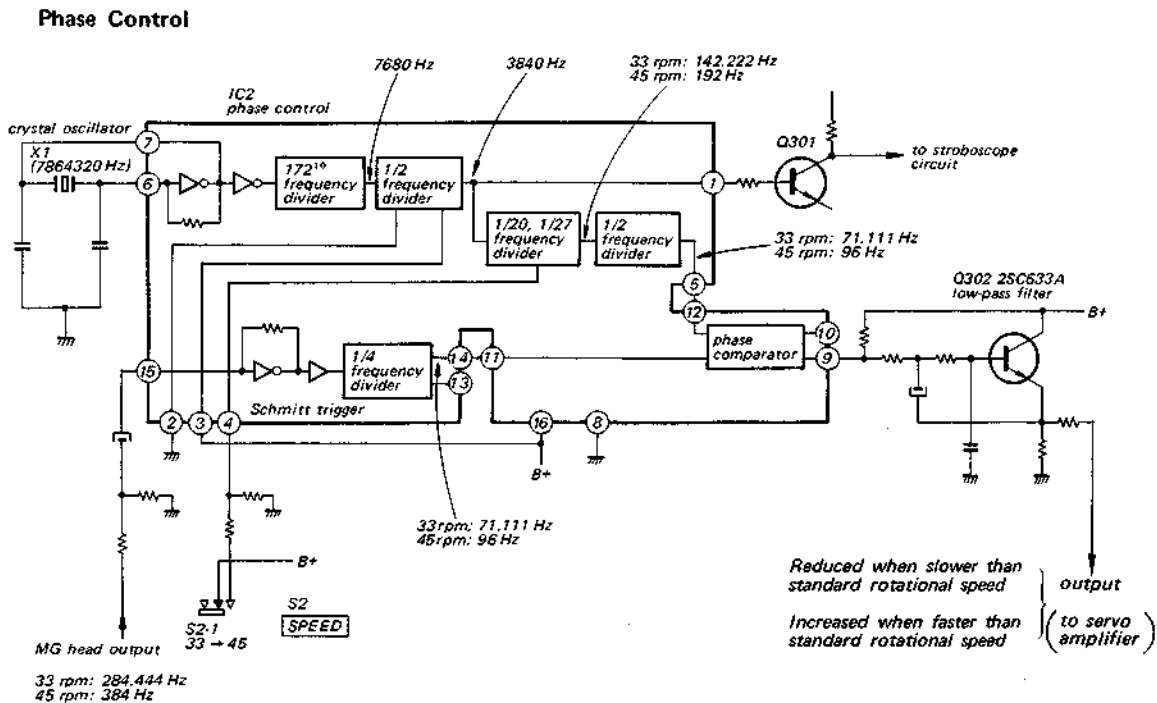

Fig. 4-6.
**Constant Speed Rotation (See Figs. 4-6 and 4-7)**